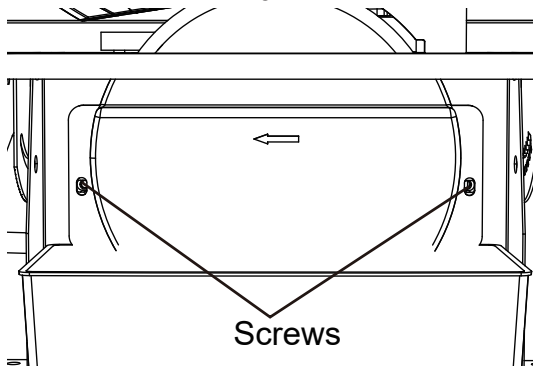

Figure 2
2. FITTING AND CHANGING THE BLADE (SEE FIG. 2, 3)